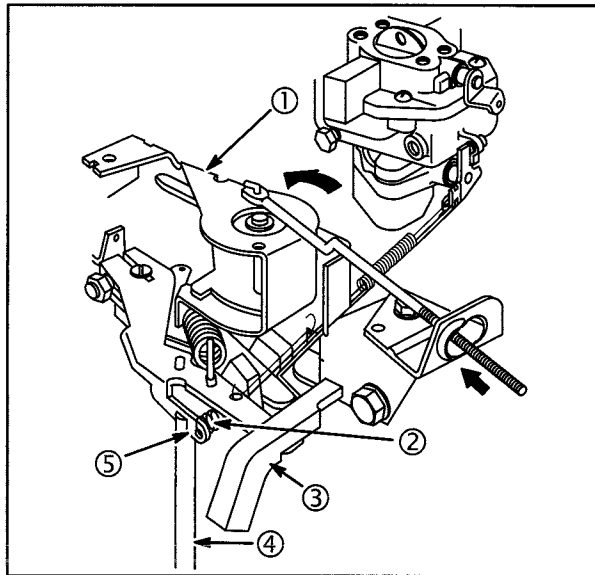

Fig. 39
- Rotate governor control swivel (1) counterclockwise to end of travel, **Fig. 39**.
- Install Adjustment Gauge #19385 (3), with notch over end of governor lever and flat end of tool against governor control bracket as shown in **Fig. 39**.
- Hold gauge in position and bend tab (5) with Tang Bender #19352 (4) so that all slack is removed from secondary governor spring (2) between its two anchor points, **Fig. 39**. **DO NOT STRETCH SPRING**.